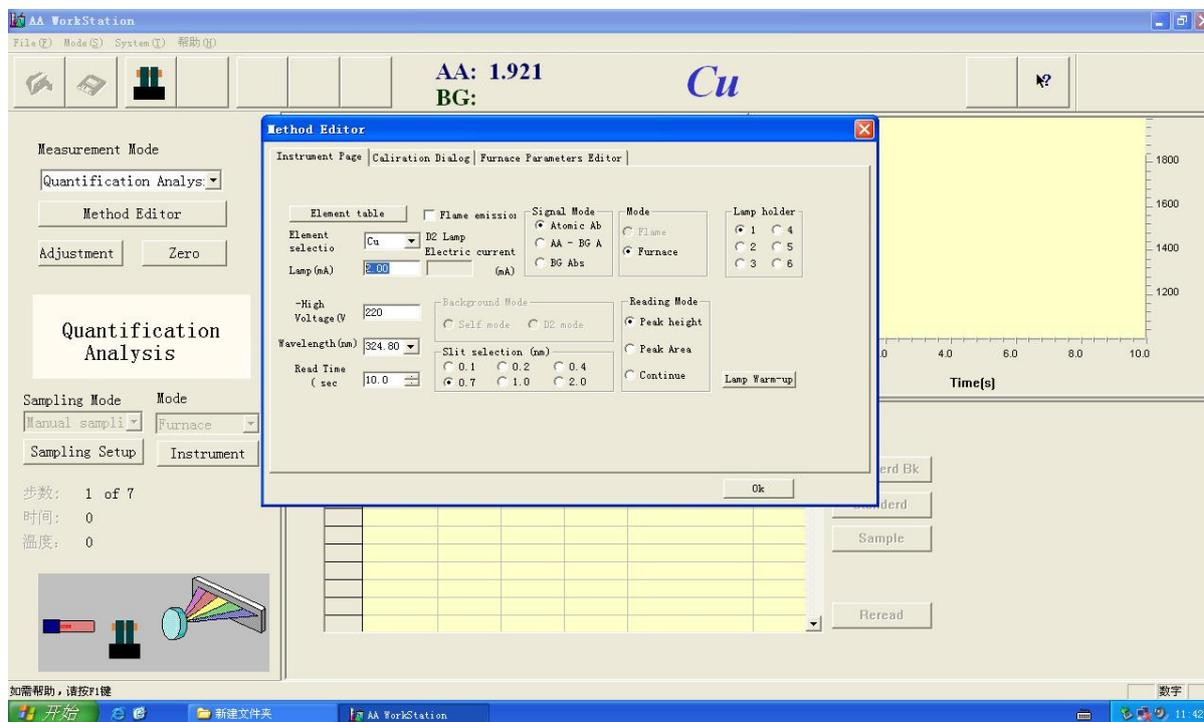

Figure 4-17
7. Lamp current choosing. input current value in the “lamp(mA)” text box. The value is between 0 and 12mA. (Figure 4-17).